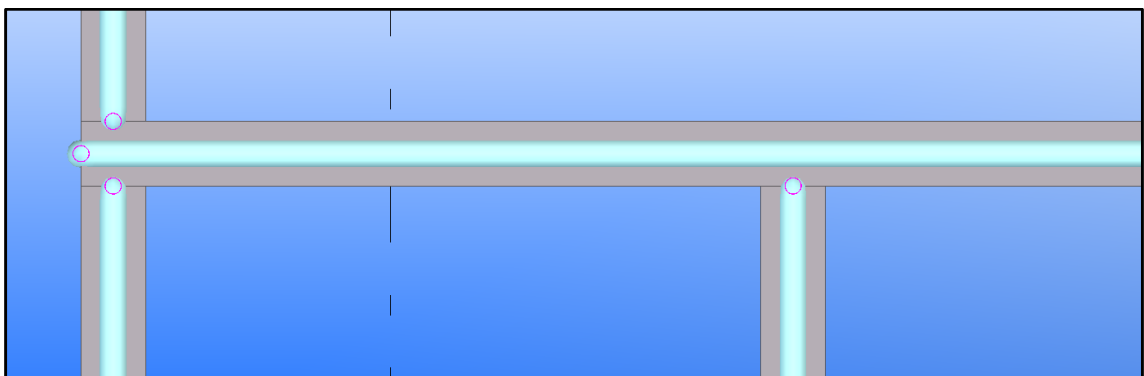

Figure 2-19
- b. The 'Connectivity' parameter for all the walls visible in the plan view in Figure 2-19 is set to 'Manual' therefore, the objects are not allowed to snap to each other. The analysis model is not accurate.